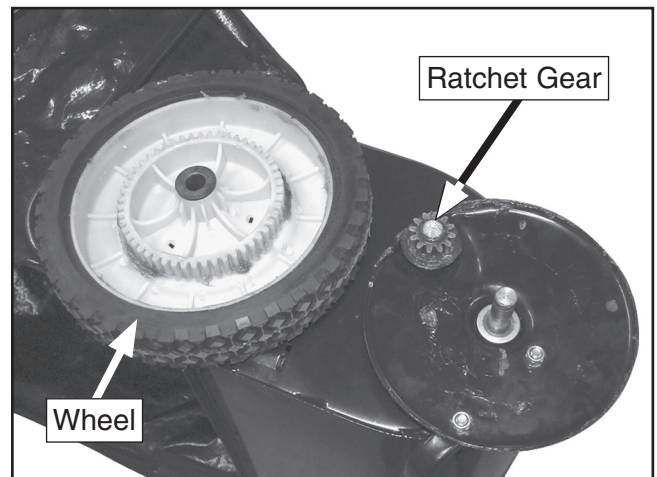

Figure 23. Wheel removed.
1. Remove the dust cover, wheel nut, and washer, as described in **Step 2** of "To Lubricate the Bushings", then remove the wheel (**Figure 23**).